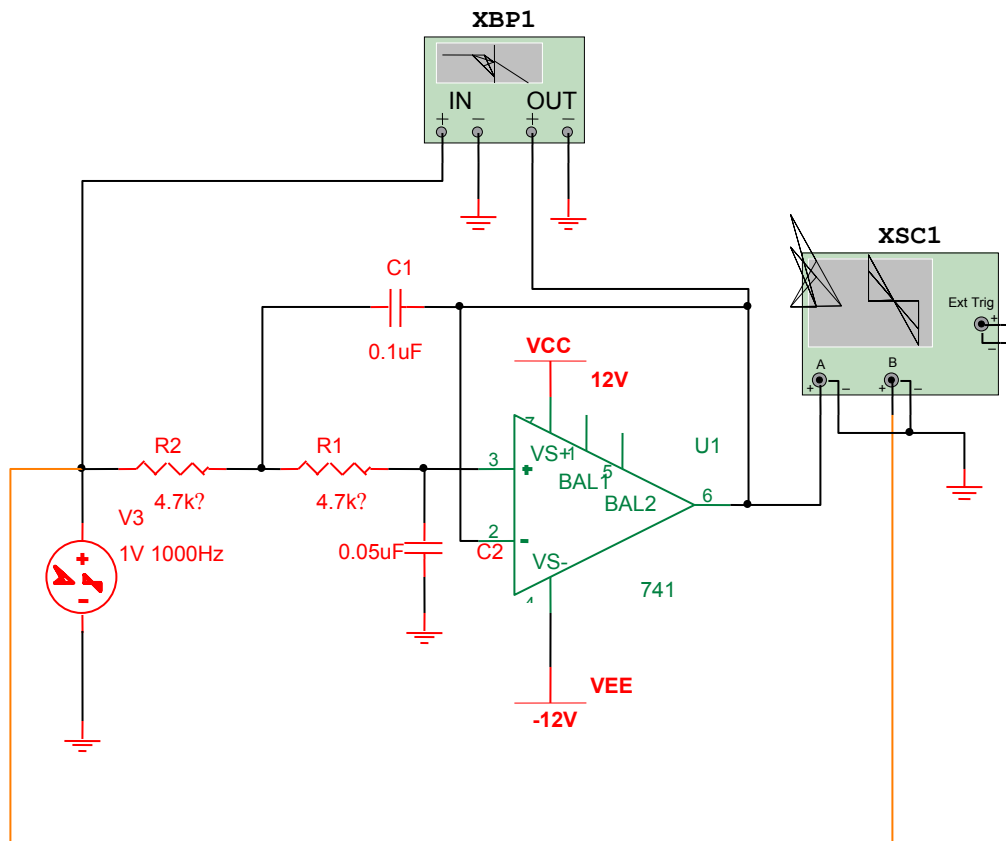
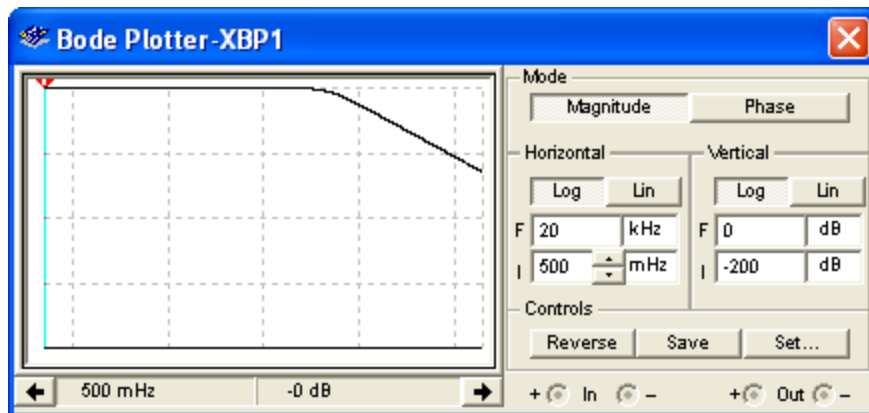
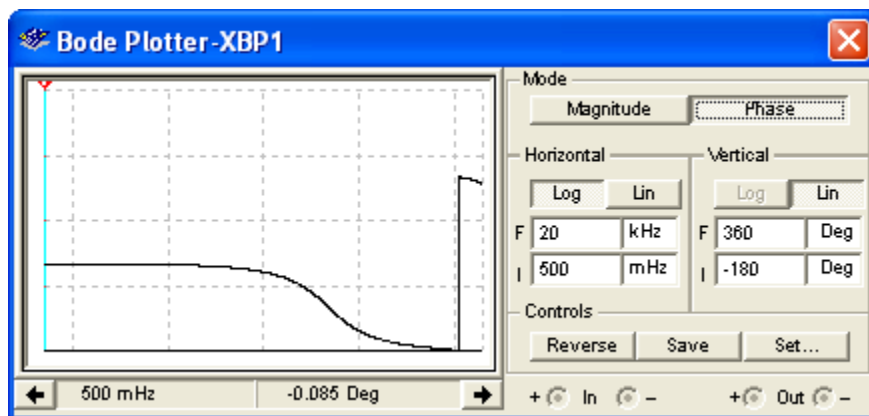

FIGURE E1-1
FIGURE E1-2
FIGURE E1-3
1. The EWB Multisim implementation of a Butterworth Second Order Low-Pass Filter is provided in Fig. E1-1. Your first step is to construct this filter in EWB Multisim. After completing your design, start the simulation and use the oscilloscope to verify that the circuit is functioning properly. To do this, connect the oscilloscope to both the input and output of the filter and verify that the output sine wave is 180° out of phase with respect to the input sine wave. The output signal will also be attenuated with respect to the input (gain less than 1). The connections you need to make to the oscilloscope are shown in Fig. E1-1.
Connect the Bode plotter as shown in Fig. E1-1. To use the Bode plotter, double-click on it and set the sweep frequency to an initial value (**I**) of 500 mHz and a final value (**F**) of 20 kHz. Both the Vertical and Horizontal settings should be set to Log. Adjust the initial and final level settings for the vertical axis as needed to display the data results. For this exercise click on the Magnitude button. The settings for the Bode plotter and the expected simulation results are shown in Fig. E1-2.
1. In this exercise, you will make phase measurements on the Butterworth Second Order Low-Pass Filter provided in Fig. E1-1 using the EWB Bode plotter. Your first step is to double-click on the Bode plotter and select on the phase mode by clicking on the Phase button. Change the initial (I) phase setting to -180° and final (F) phase setting to 360°. The settings for the Bode plotter and the expected simulation results are shown in Fig. E1-3. You may need to rerun the simulation after making the changes.